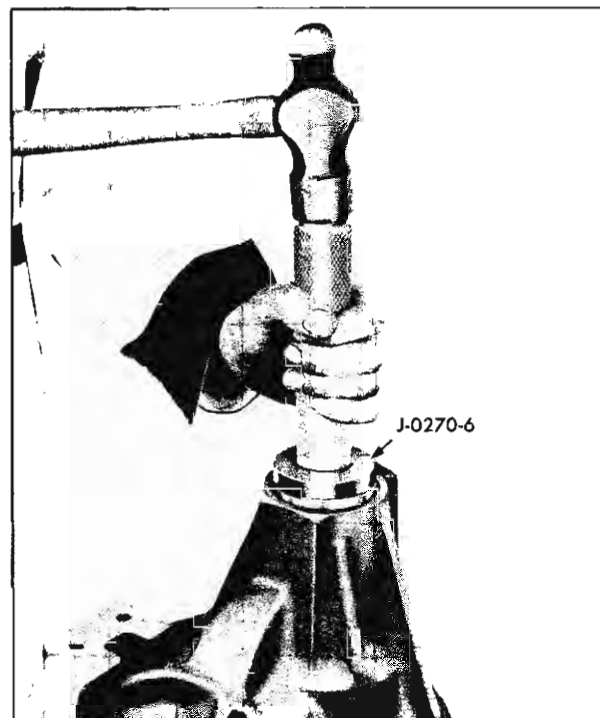
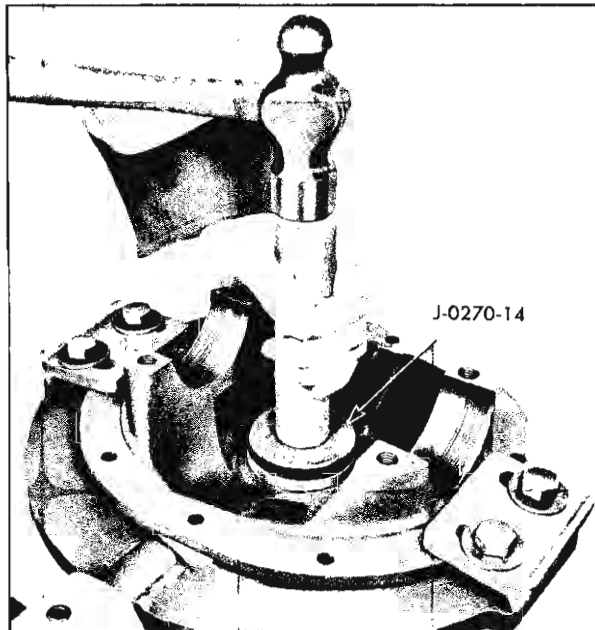

Fig. 17—Installing Front Pinion Bearing Cup
Fig. 18—Installing Rear Pinion Bearing Cup
2. Install new bearing cups in carrier, using Tool J-0270-6 (fig. 17) on front cup and Tool J-0270-14 (fig. 18) on rear cup. Bearing cups should seat against shoulders in differential carrier.